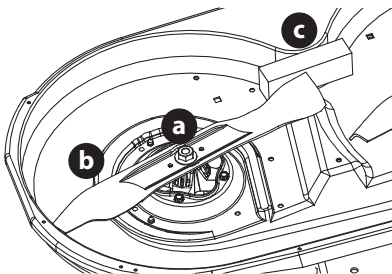

Fig. 50
2. Place a block of wood (c) between the deck housing and the cutting edge of the blade (b) to help in breaking loose the hex nut (a) securing the blade (b). Use a 15/16 inch wrench to loosen the hex nut (a) (Fig. 50).